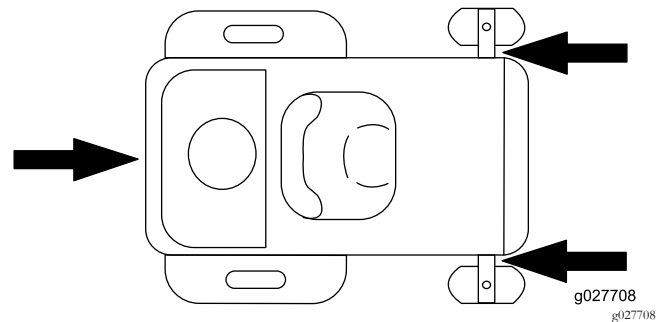

Figure 25
- Securely fasten the machine to the trailer or truck with straps, chains, cable, or ropes. Only use the designated tie-down locations on the mower as shown in Figure 25. Use these locations even when transporting the mower with an attached accessory. Using non-designated locations may cause damage to the mower and/or attachment.